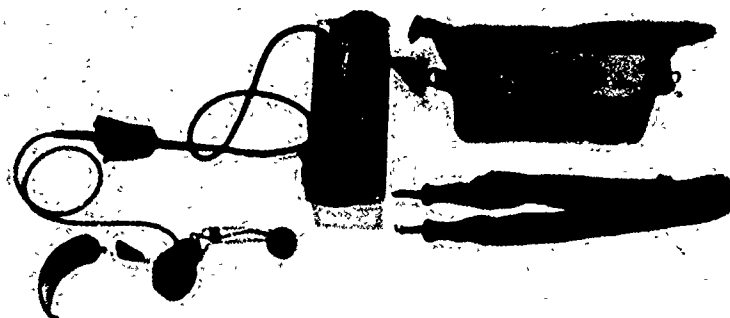

Figure 10-15. Telephone Set TA-312 with Handset-Headset H-144.
a. Reeling Machine RL-172 ()/G (figure 10-15) which weighs approximately 100 pounds, is used to pay out and pick up field wire from Wire Reels RL-159()/U. The reeling machine is normally mounted vertically on the tailgate of a truck. It also may be operated horizontally from the bed of a truck.